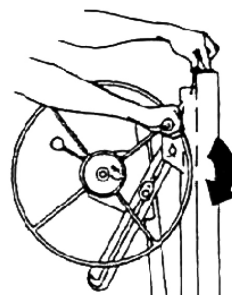

Fig. 12
7. While holding the slide bar in the unlocked position, press down on the telescoping sections in the frame with your left hand. The winch assembly will move toward the frame housing (Fig. 12).